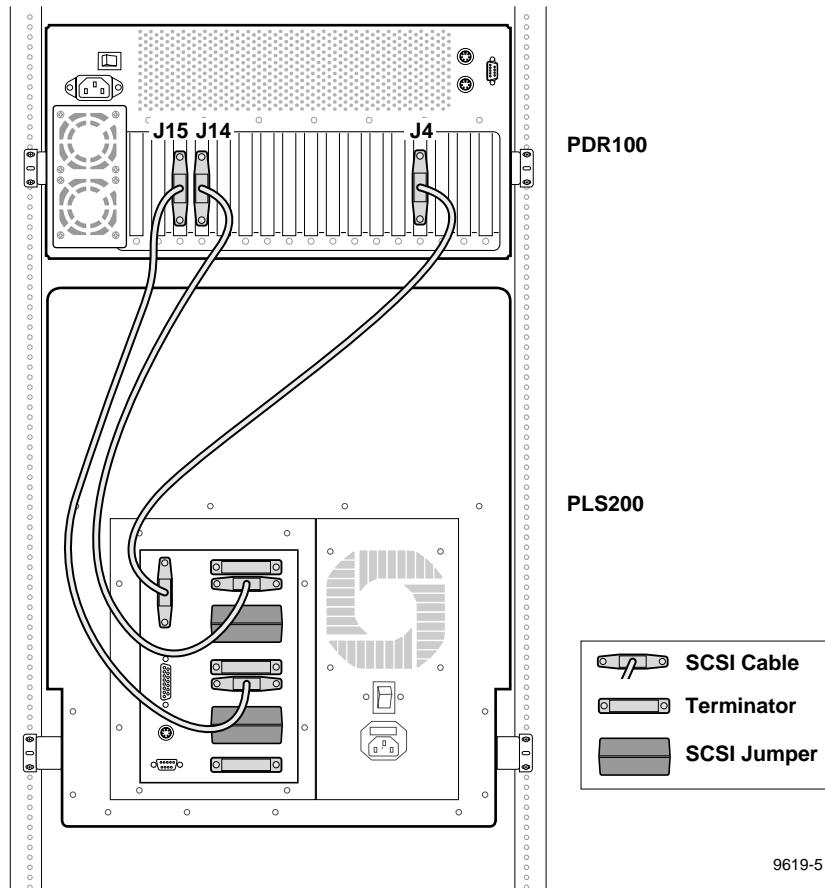

Figure 1-18 SCSI connections from the VDR to the PLS200
The library is connected to the Profile system with three SCSI cables. One cable controls the library and attaches to the SCSI adapter board. The other two cables transfer data to and from the tape drives. These cables connect to the SCSI A and SCSI B busses at the VDR Disk Recorder boards, the PDX 103, or PRS 200 as shown in Figures 1-18, 1-19, and 1-20. All cables are fast wide, differential with screw fasteners on both ends.
3. Connect the SCSI cables included with the PLS 200. Refer to Figures 1-18, 1-19, and 1-20 as appropriate for your installation.